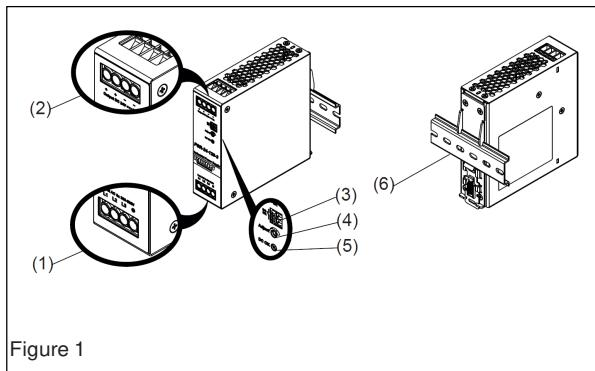

Figure 1
## 2. Device description (Fig. 1)
### 4.1. Input connection (Fig. 1, Fig. 6)
Use L, N and PE connections of input terminal connector (see Fig. 1 (1)) to establish the 3 x 380-500VAC connection. The unit is protected with internal fuse (not replaceable) at L1, L2 and L3 pins, which have been tested and approved on 20A (UL) and 16A (IEC) branch circuits without additional protection device.
### 4.2. Output Connection (Fig. 1 (2))
Use the "+" and "-" screw connections to establish the 24 VDC connection. The output provides 24 VDC. The output voltage can be adjusted from 24 to 28 VDC on the potentiometer. The green LED DC OK displays correct function of the output (Fig. 1 (5)). The device has a short circuit and overload protection and an over voltage protection limited to < 35 VDC.